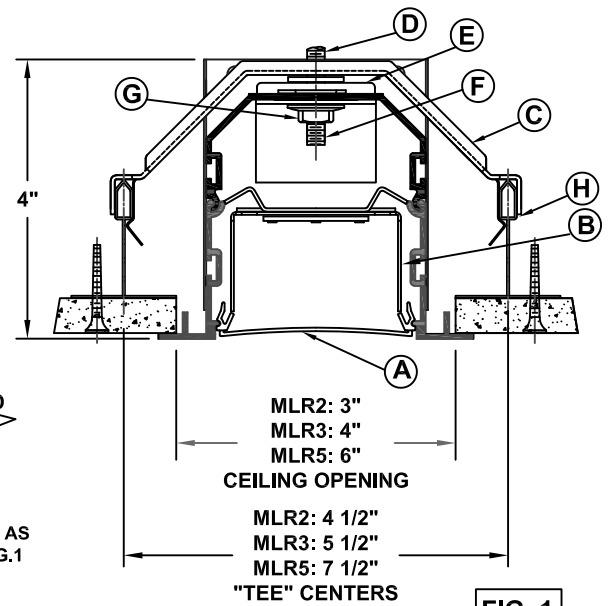

FIG. 1
CEILING CONTRACTOR MUST PROVIDE A ROUGH CEILING OPENING WIDTH AS INDICATED BELOW IN FIG. 1 WITH 1-1/2" WIDE DRYWALL TEE MOUNTED ON CENTERS ALSO AS INDICATED BELOW IN FIG.1 ALONG EACH SIDE OF OPENING (REF. FIG. 1). LENGTH OF OPENING SHOULD BE AS INDICATED ON FACTORY SHOP DRAWING. IF YOU ARE NOT IN POSSESSION OF A SHOP DRAWING, CONTACT YOUR LOCAL REPRESENTATIVE OR THE FACTORY TO OBTAIN ONE.
LOCATE AND SECURE SNAP-IN YOKE (C) TO "TEE" SUPPORT ON THE CENTERS INDICATED ON FACTORY SHOP DRAWING. (REF. FIG. 1) THE YOKE CAN BE ADJUSTED ONCE INSTALLED BY REMOVING TENSION ON SPRING CLIP AND SLIDING TO PROPER POSITION.